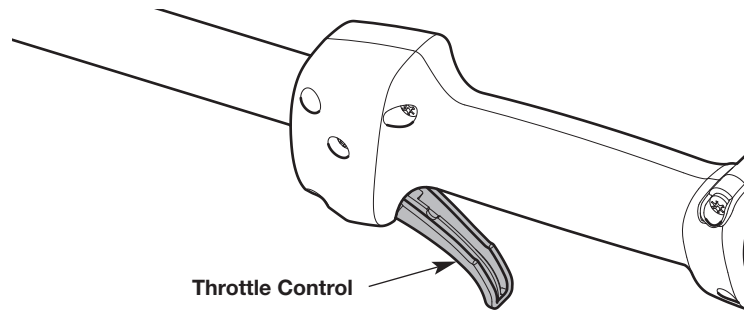

Fig. 12
4. Squeeze and hold the throttle control (Fig. 12).